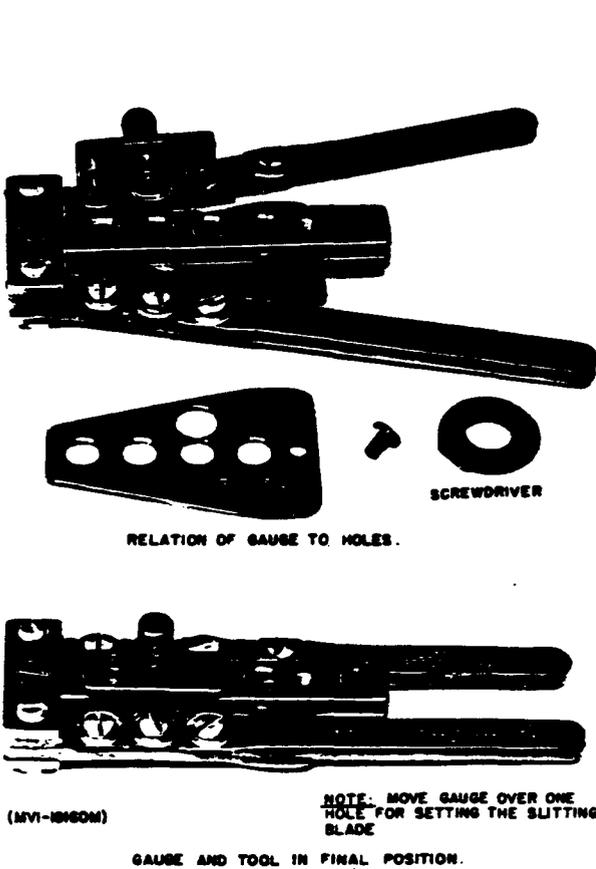

FIG. 3 ADJUSTING BLADES ON COAXIAL CABLE STRIPPER (PARS. 4.21, 4.213, 4.511)
4.21 Strip and butt 724, 726, 727A, 728A, 730A, 731A, KS19906, L1 and SDC-75-2S (RG-59/U) cables using the coaxial cable stripping set (R-3186). See Figures 3, 4 and 4A.
4.213 The blades are set for the proper cutting depth, as follows: (Refer to Figure 3)
4.511 Use the coaxial stripping set (R-3186), if it is available on the job. Refer to Paragraph 4.21 and Figures 3 and 4 for information concerning the use of this set. It may be necessary to set the blades up without a gauge, to obtain the proper cutting depths.
- ① CUT PE BELT AT END OF CABLE WITH DIAGONAL CUTTERS. CUT BACK FAR ENOUGH SO THAT BLUE CONDUCTOR CAN BE GRIPPED WITH SHORT NOSE PLIERS.
- ② GRIP END OF BLUE CONDUCTOR WITH SHORT NOSE PLIERS AND HOLD END OF PE BELT WITH HAND. PULL BLUE CONDUCTOR BACK TOWARD BUTT OF CABLE FOLLOWING TWIST OF LEADS. THIS WILL TEAR PE BELT. PULL OUT WHITE CONDUCTOR IN SAME MANNER.
- ③ CUT OFF SPLIT PE BELT WITH DIAGONAL CUTTERS.
4.711 Use the Coaxial stripping tool (R-3186), if it is available on the job. Refer to Paragraph 4.21 and Figures 3, 4 and 4A for information concerning the use of this set.
4.81 Strip and butt the KS-19906-L1 cable with the coaxial stripping tool R-3186. Refer to Paragraphs 4.21 and Figures 3, 4 and 4A for information concerning the use of this set. Because there isn't much demand for the KS-19906-L1 cable, the KS-19906-L1 Collet Plate and Gauge needed for stripping and butting the cable shall be ordered direct from the supplier as shown in Handbook 250, Section 4, Set R-3186.